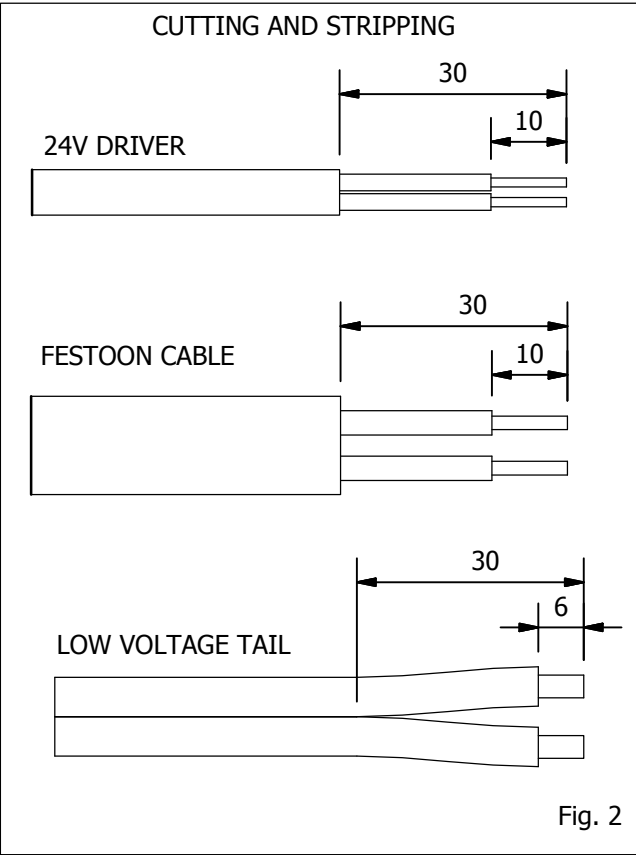

Fig. 2
- 2) Cut and strip wires. (Fig. 2)